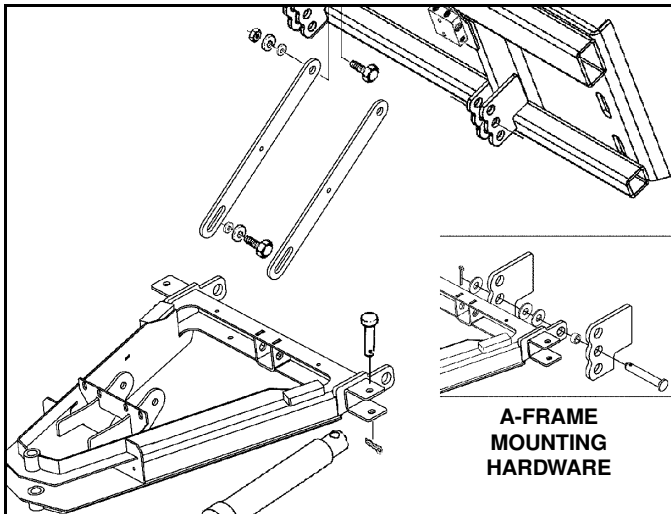

Figure 1-19
1. Insert bushings into the a-frame lugs. (See Figure 1-19)
2. Slide the A-frame into the middle position of the universal adaptor bracket. (See Figure 1-19)
3. Insert pin into the a-frame lugs. On one side add the additional washers to prevent the a-frame from sliding side to side. Push the pin all the way through the adaptor plate and insert cotters to retain pins in position. (See Figure 1-19)
4. Located the slider links and mount them to the adaptor plate. Insert bushings into the slider link pivot hole. Insert the bolts with washers (to retain the bushing in position) and attach a nut on the inside of the adaptor plate pivot point. Tighten the nuts down. (See Figure 1-19)